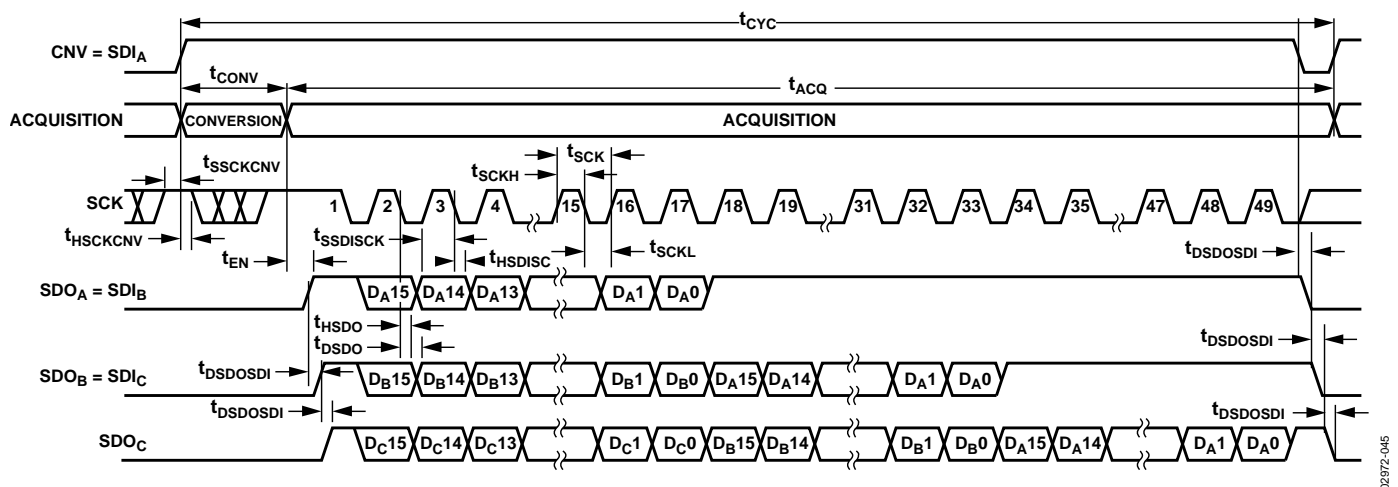

Figure 46. Chain Mode with BUSY Indicator Serial Interface Timing
- In the chain mode, if SCK is high during the CNV rising edge (Figure 46).